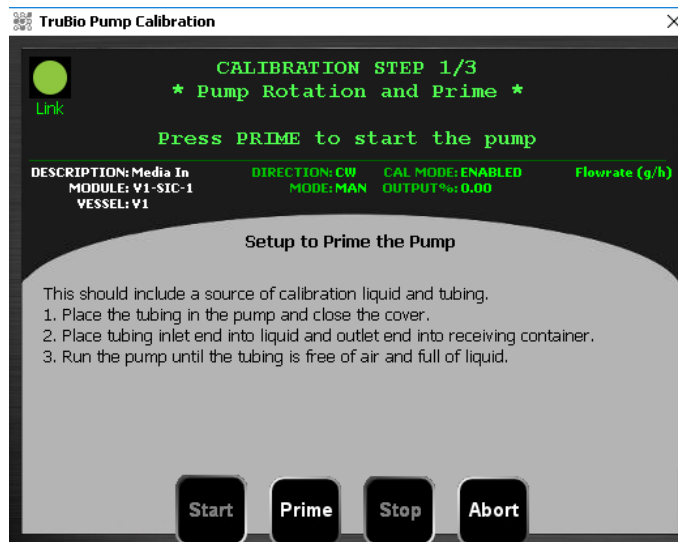

Figure 2.37. Calibration step 1 of 3: Setup to prime the pump.
8. Follow the instructions on the “Calibration Step 1/3” screen to complete the calibration (Figure 2.37).